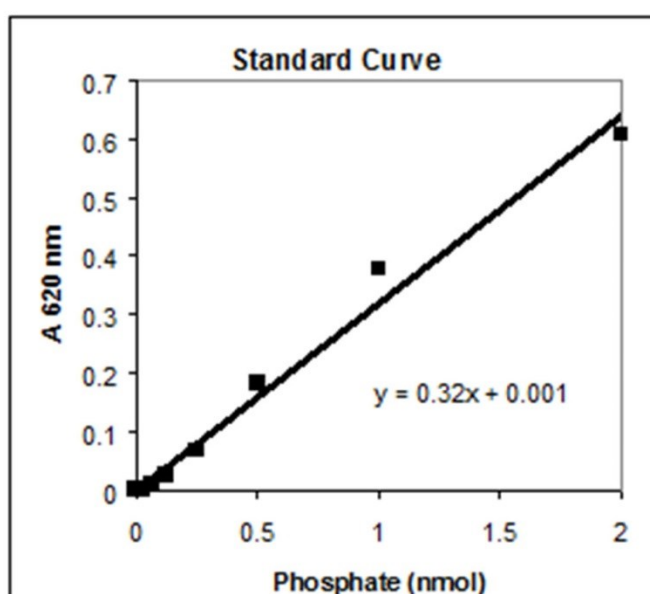

Figure 3: BIOMOL® Green Phosphate Standard Curve
1. Plot standard curve data as OD620nm versus nmol PO4 (see Figure 3).